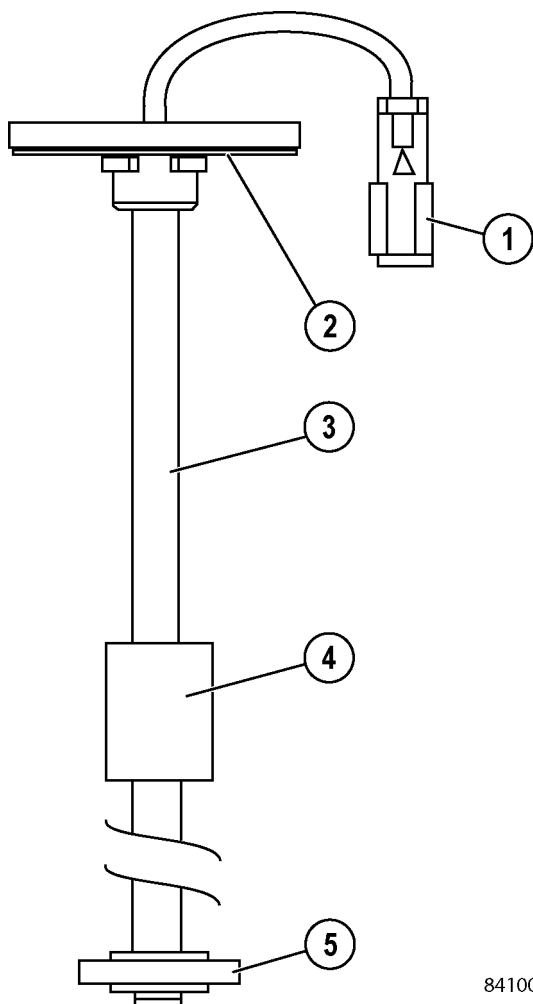

FIGURE 4-4. FUEL GAUGE SENDER
1. Clean the fuel gauge sending mating surface on the fuel tank. If reinstalling the same fuel gauge sender, clean the mating surface on the sender and install a new gasket (2, Figure 4-4). (New fuel gauge senders are supplied with a new gasket.)
Float (4, Figure 4-4) moves up and down as the fuel level changes. The resistance value in the fuel gauge sender changes with the level of fuel in the tank.